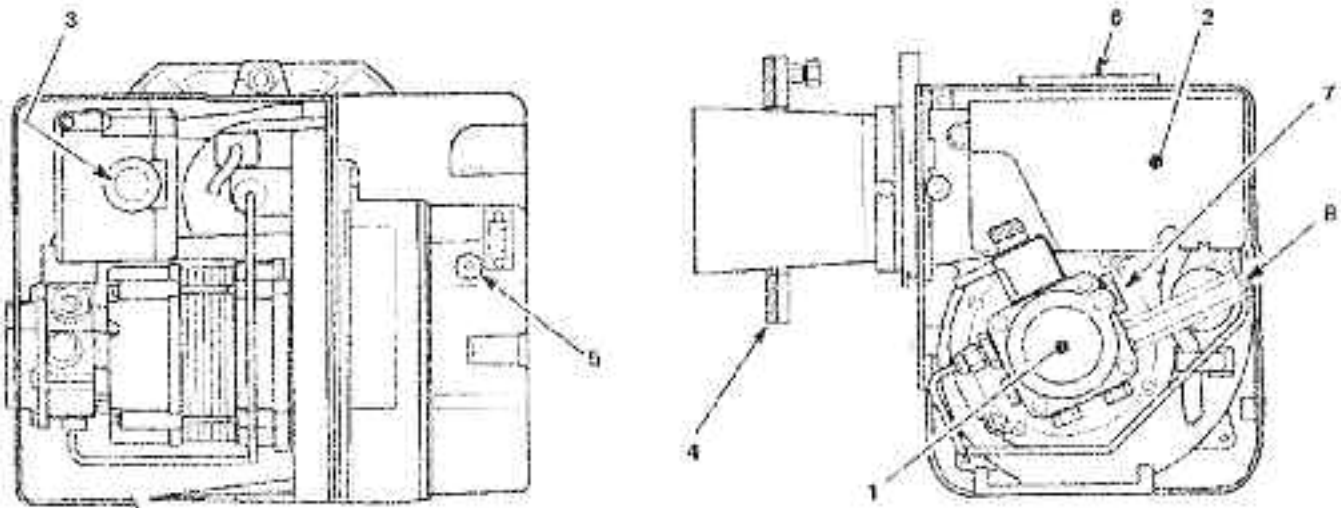

Fig. 19 - Riello RDB burner components
Riello RDB burner - see fig. 19
- 1 Remove and retain the burner fixing nut from the stud on the burner fixing flange on the front of the boiler, see Fig. 19. Leave the small nut in position (ensure it is located up against the mounting flange).
Riello RDB burner: Use the hexagonal key supplied to adjust the burner air damper (See Fig. 19) as required. Turning the screw anti-clockwise closes the damper and increases CO₂ level, turning the screw clockwise opens the damper and reduces CO₂ level.